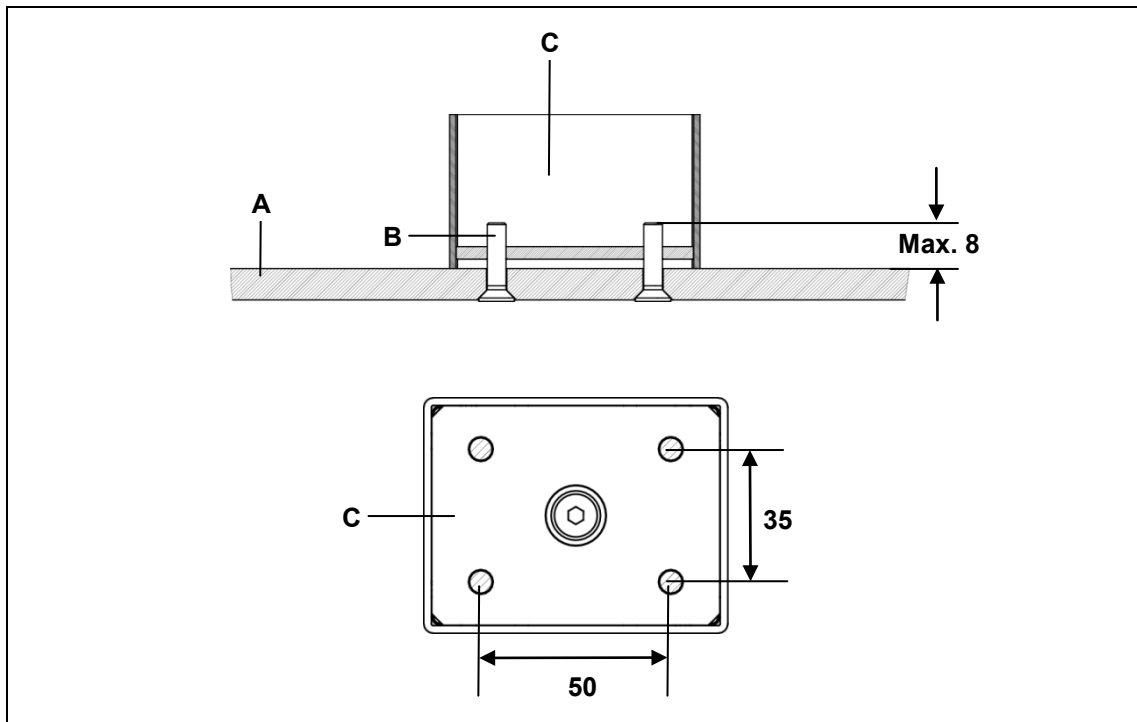
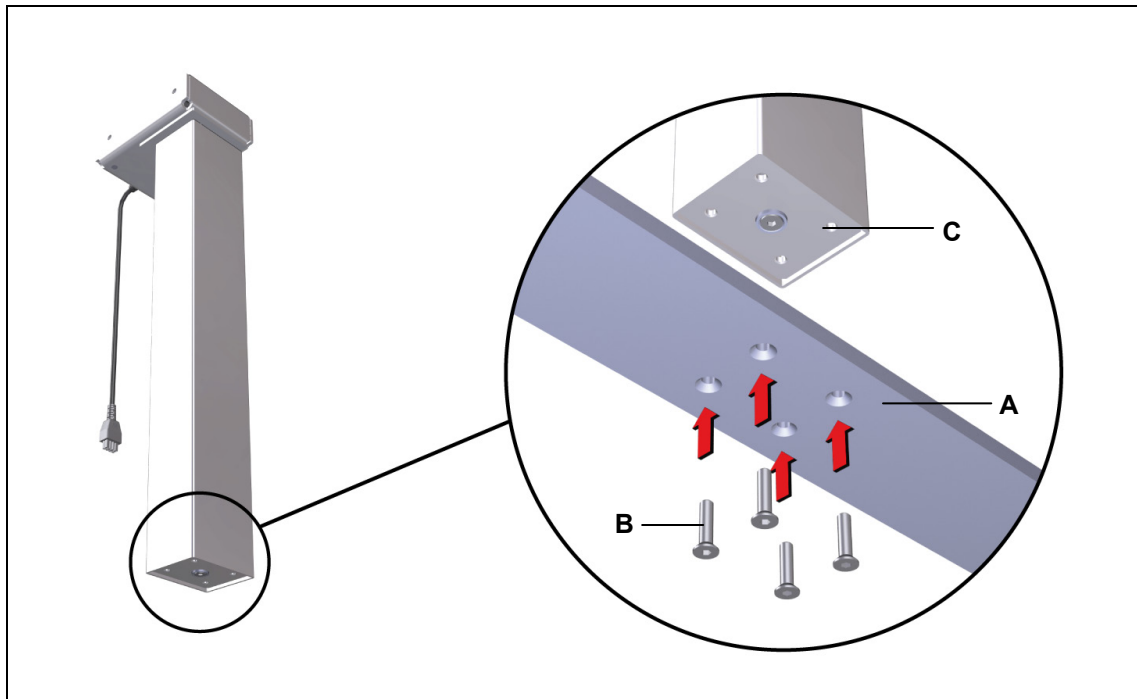

Figure 9 Example: Mounting the table base (for variant D): (in mm)
Figure 10 Example: Mounting the table base (for variant D)
- ▶ Use M6 countersunk screws (with strength grade 8.8), as shown in Figure 9. The tightening torque must not exceed 10 Nm.
- 1 Use four screws to attach the table base to the foot end of the lifting column, as shown in Figure 10 (the maximum tightening torque is 10 Nm). The mounting dimensions are shown in Figure 9.